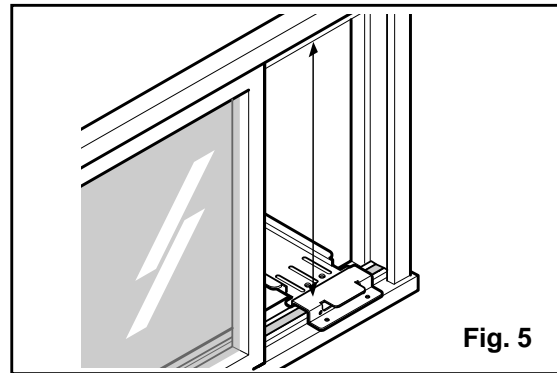

Fig. 5
7. Measure height of window opening from top of Bracket assembly as shown Fig. 5. Subtract 20-3/4 inches. Mark this measurement on Curtain and cut the Curtain. (Fig. 5)